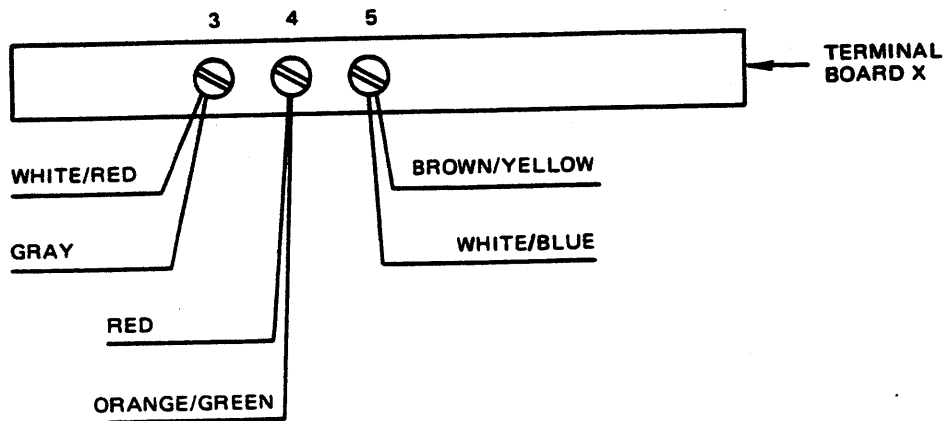

Figure 3-41 Full Duplex Wiring
4. Connect these two wires (brown with yellow stripe and white with blue stripe) to terminal 5 of terminal board X (see Figure 3-41).